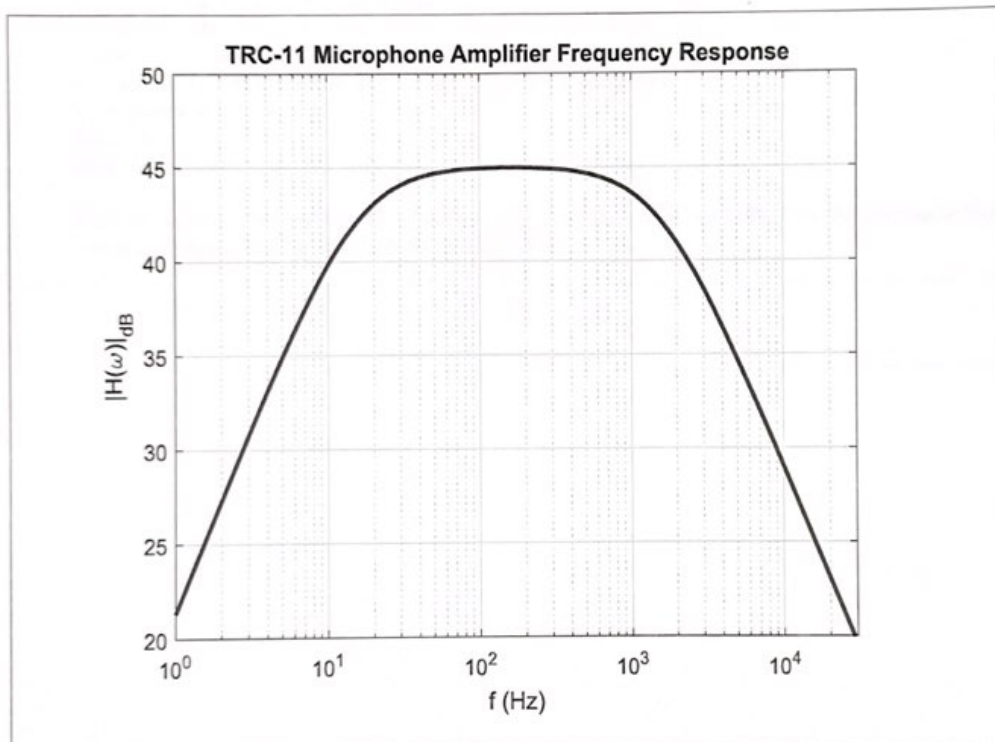

Figure 3: Calculated Frequency Response of the Microphone Amplifier
3. The gain function in decibels is plotted in Fig. 3. If $f_1 \ll f \ll f_2$, then $|v_o/v_{in}| = A_v = 20 \log_{10} A_v = A_{vdB}$. If $f = f_1$ or $f = f_2$, then $|v_o/v_{in}| = A_v/\sqrt{2} = A_{vdB} - 3\text{dB}$ (3 dB less than the low frequency value).
14. Find the values of the corner frequencies experimentally by finding the frequencies, f'_1 and f'_2 , where the gain is 3-dB less than (or $0.707 \times$) its mid-frequency gain value. Compare your results with the calculated values above and the curve shown in Fig. 3.